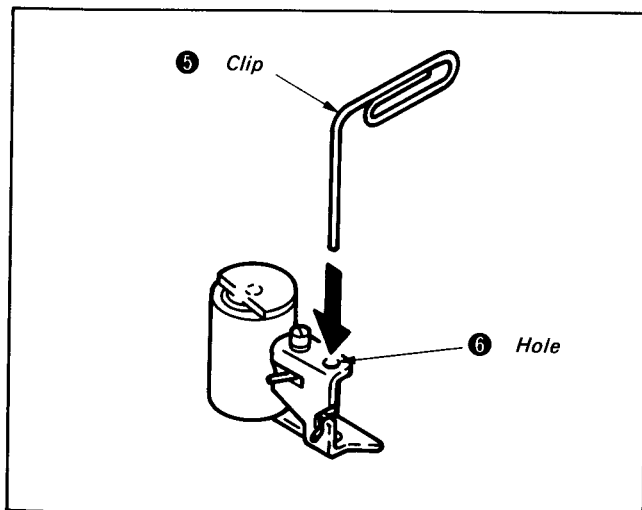

Fig. 8-21.
- 2) Reinsert a thin object like a clip ⑤ into the pinch roller assembly hole ⑥. (See Fig. 8-21 and 22.)